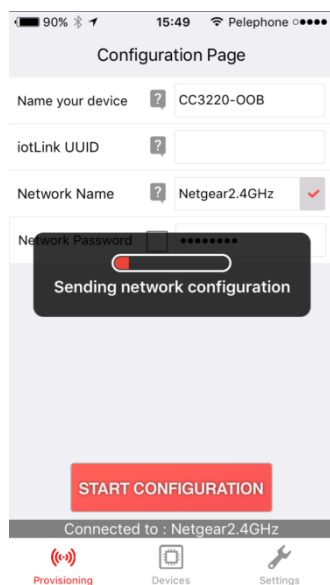
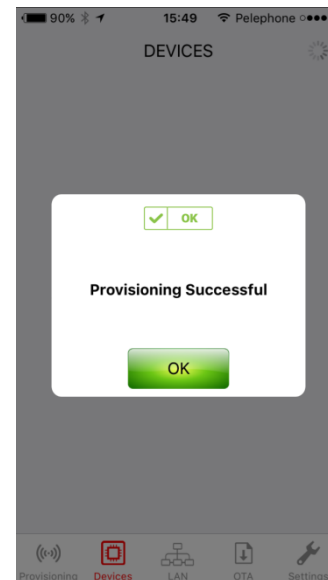
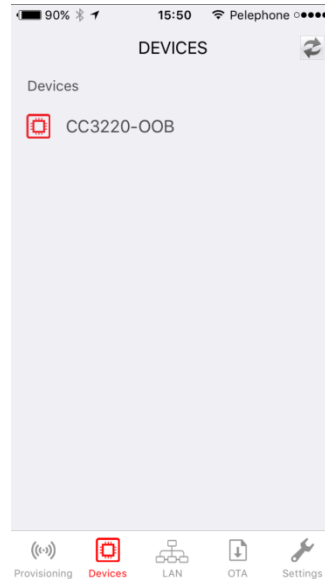

Figure 17. Wi-Fi Starter Provisioning Process (1/3)
Figure 18. Wi-Fi Starter Provisioning Process (2/3)
Figure 19. Wi-Fi Starter Provisioning Process (3/3)
3. Successful provisioning is indicated on the mobile application as shown in Figure 17, Figure 18, and Figure 19. On the LaunchPad, the red Led (D7) turns solid on.